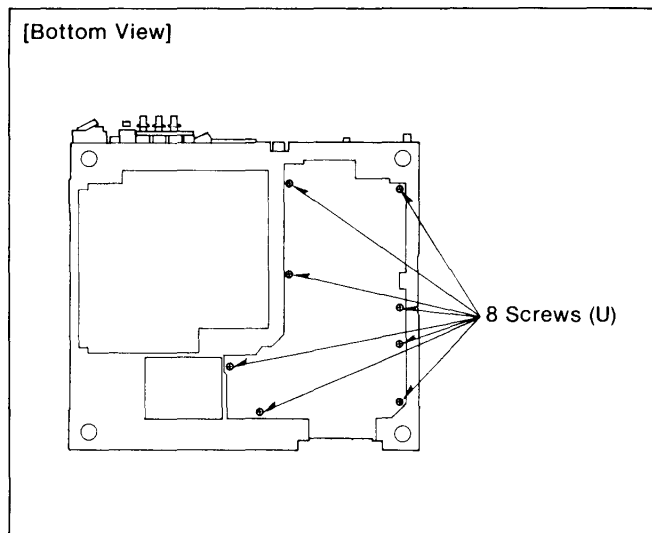

Figure D22
1. Unscrew the 8 screws (U) on the Mother C.B.A. (Figure D22).